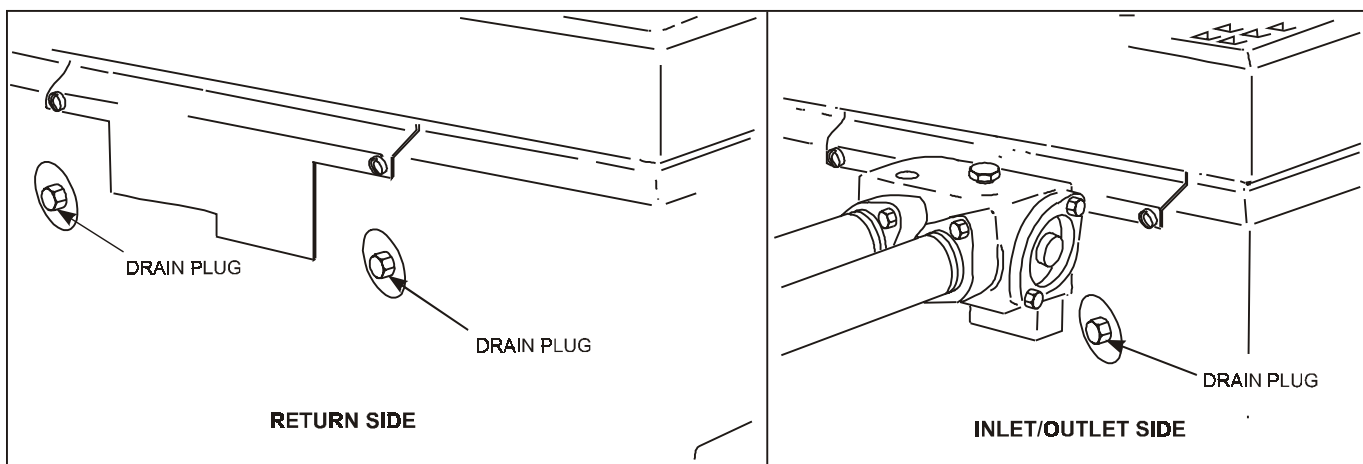

Figure 21. Heater drain locations.
8. Disconnect the pressure switch copper tubing (see Figure 21).
1. Attach the copper tubing to the pressure switch and fill the loop with SAE 50, non-detergent oil (see Figure 21).